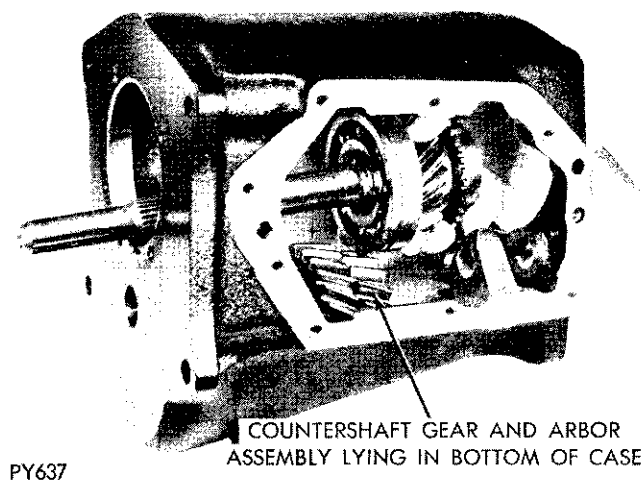

Fig. 11—Drive Pinion and Bearing Assembly—Removal or Installation
case and remove through rear (Fig. 11).
- (10) Install drive pinion and bearing assembly into case (Fig. 11).